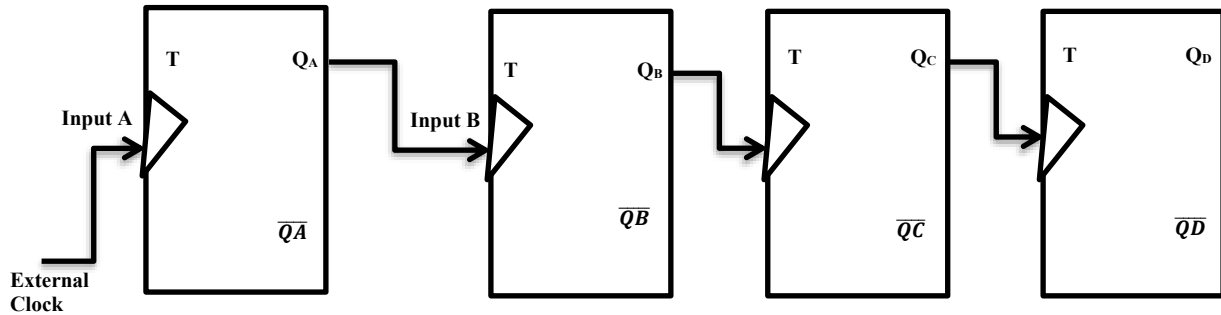

Fig 9.1: Connections for BCD Count
3. Connect input A and input B according to the connections indicated in Fig. 9.1 & 9.2 to generate BCD count and bi-quinary count respectively.